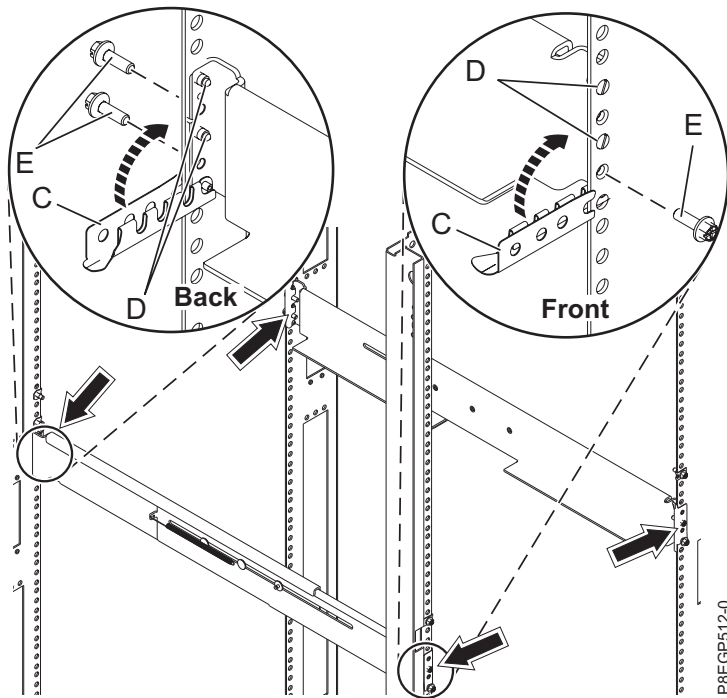

Figure 5. Attaching the rails
- a. Extend the right rail and insert the rail pins **(D)** into the two lowest mounting holes that are marked on the rack so that the rail is facing upward as shown in Figure 5 on page 8
- b. Rotate up the front clamp **(C)** to secure the rail in place as shown in Figure 5 on page 8.